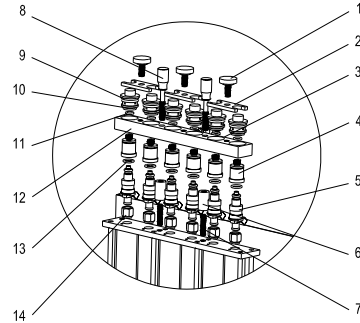

Fig. 05
- 6) Install the fuel distributor and the injector on the fuel distributor supporter with a proper adjustable screw and knurled nuts, and tighten two raffle screws (black). See Fig. 05.